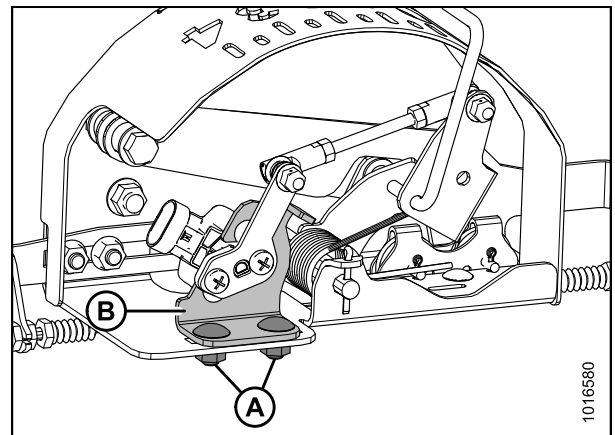

Figure 6.13: AHHC Sensor Assembly
- e. Rotate sensor (B) counterclockwise to increase high voltage limit and clockwise to decrease it.
- f. Tighten sensor mounting nuts (A).
- d. Loosen sensor mounting nuts (A).
4. If unable to get the voltage within the required range, loosen mounting bolts (A) and shift sensor assembly (B) inboard (as shown in Figure 6.13: AHHC Sensor Assembly, page 143).